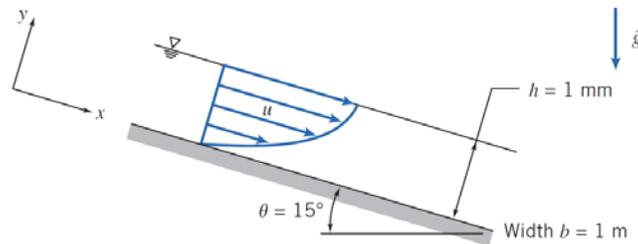

Figure 3
3. A steady, fully-developed and lamina liquid film of thickness h flows down an inclined plane surface as shown in Fig. 3. An exact solution by solving Navier-Stokes equations for this flow is $\underline{V} = (u, v, w)$, where